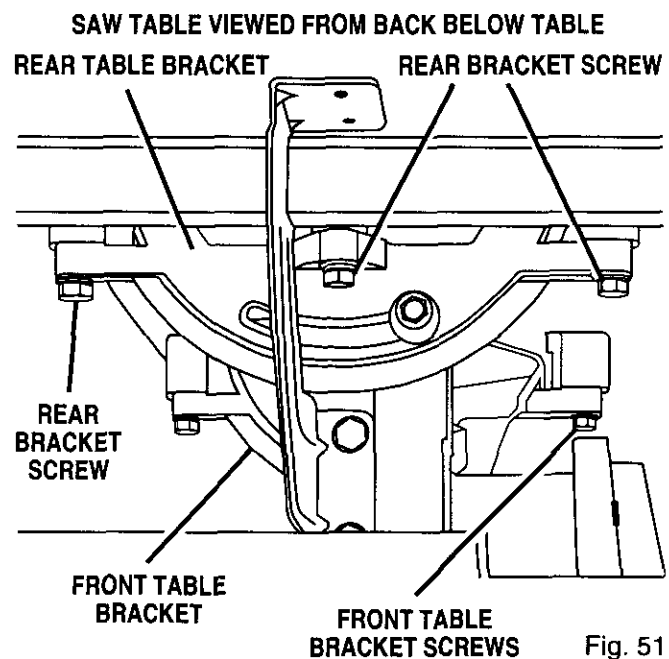

Fig. 51
- From the back of the saw, loosen the three screws on the rear table bracket with a 12 mm wrench. See Figure 51.